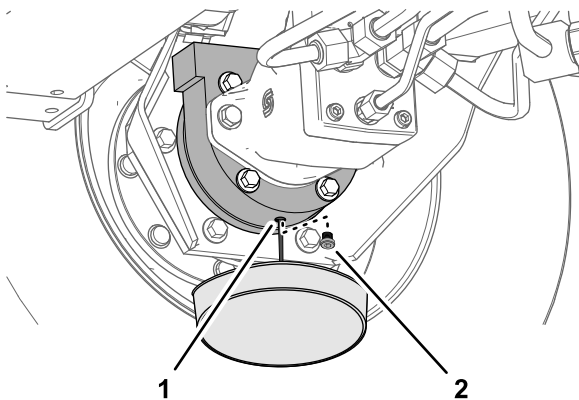

Figure 102
6. Place a drain pan under the brake housing, remove the drain plug, and allow the oil to fully drain (Figure 102).